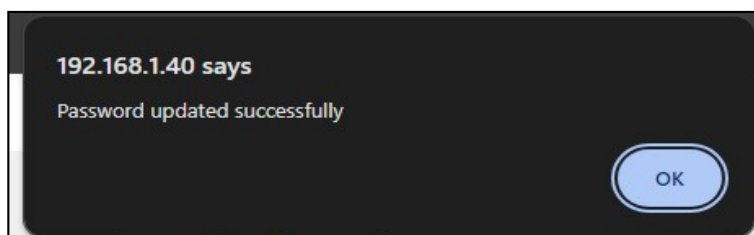

Figure 43: Password Updated Confirmation
4. **Confirmation:** After updating, a confirmation message will appear (refer to Fig 43) indicating that the password has been updated successfully. The user will be automatically redirected to the login page to log in using the new credentials. If any other message appears or if the user is not redirected to the login page, follow the instructions provided in that message.